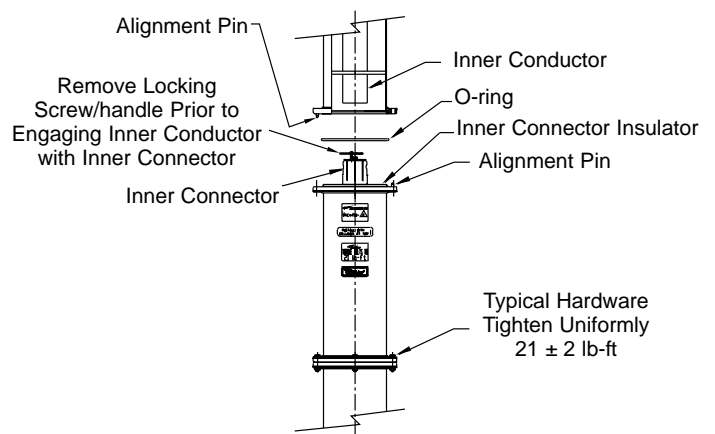

Figure 3
- 2 Align inner connector bullet of previously installed section with inner conductor, see Figure 3. Mate bullet with inner conductor and keep aligned. Align flange pin with corresponding flange alignment hole and mate flanges. Verify flange insulator is properly seated in appropriate flange groove. Firmly push flanges together while checking that O-ring remains in correct position.